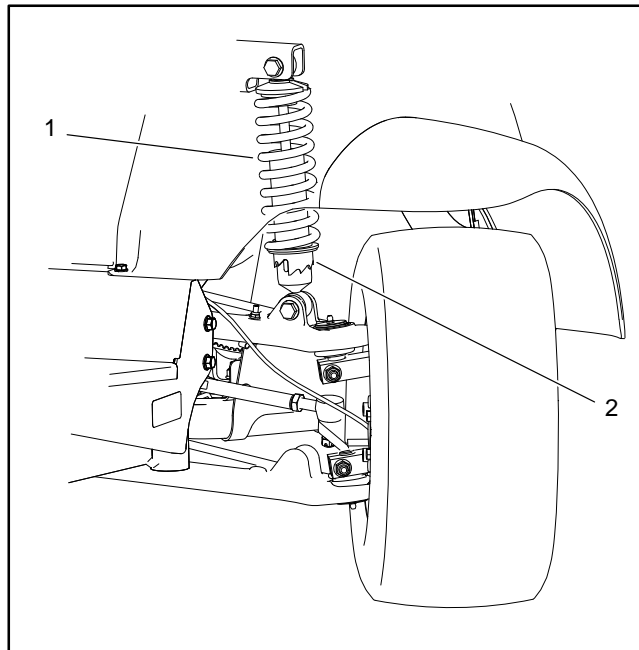

Figure 4
2. Turn the front wheels all the way to the left or right as needed to better access the shock adjustment collar (Fig. 4).